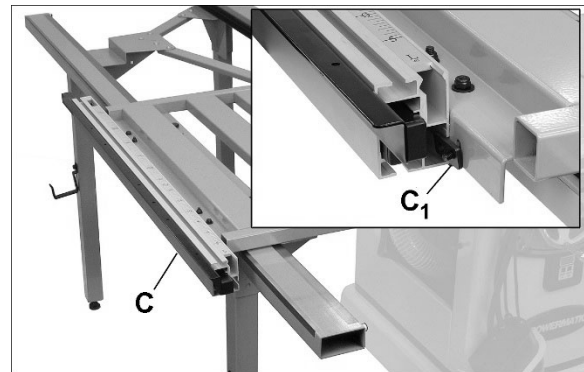
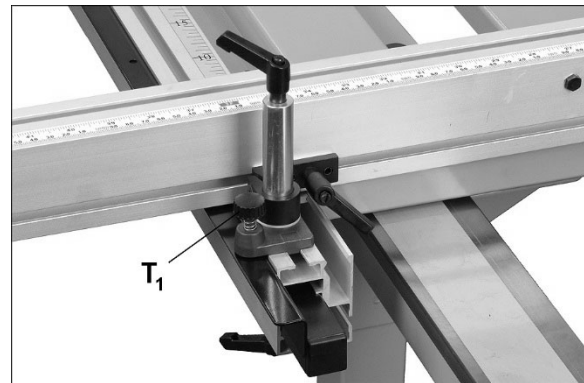

Figure 7-20
Figure 8-7
1. Slide angle adjusting rail (C, Figure 7-20) onto the two T-nuts (C_1).
8. Loosen the two T-nuts on angle adjusting rail (see Figure 7-20), and slide angle adjusting rail while pushing down index pin (T₁, Figure 8-7) until first hole from the end engages index pin.